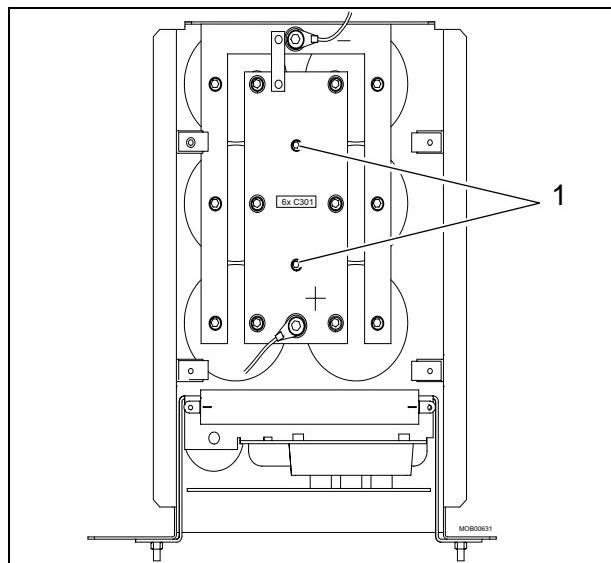

Fig. 8
- Remove the two screws in the middle (pos. 1 / Fig. 8) and remove the capacitor bank.